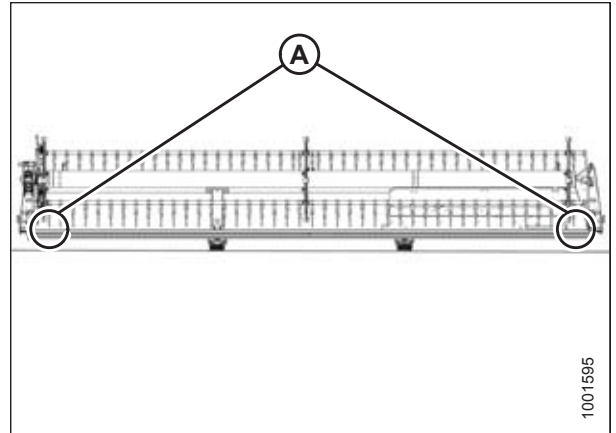

Figure 5.267: Single Reel Measurement Locations
6. Measure the clearance (X) between points (A) and (B) at certain measurement locations. For clearance specifications, refer to 5.13.1 Reel Clearance to Cutterbar, page 543. For the measurement locations, refer to:
- Figure 5.267, page 545 – single reel